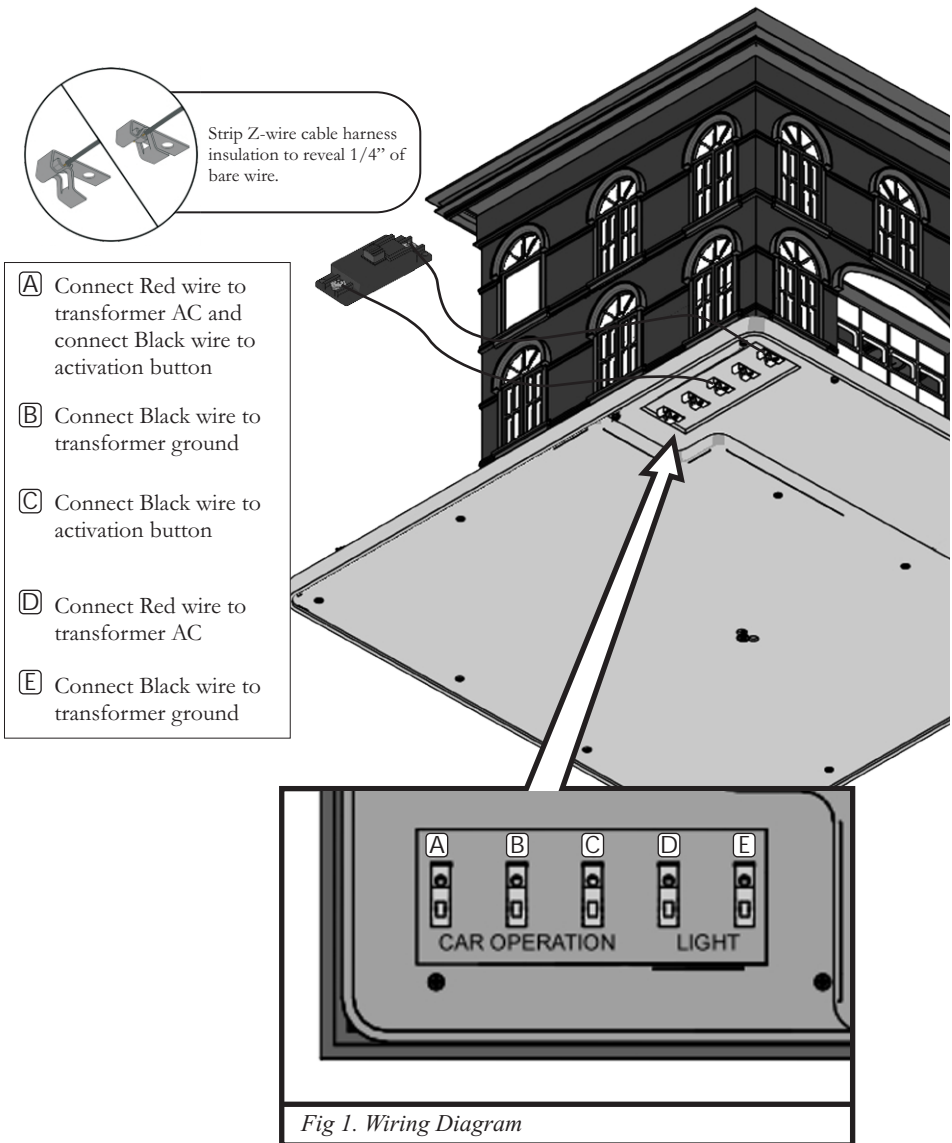

Fig 1. Wiring Diagram
The RailKing® Fire Station is made up of three components: the fire station building and base, the fire truck, and the activation button. Before you place the fire station on the layout, you must wire the station to the activation button and power source. In order to connect power to each component, the six (6) enclosed wires must be connected to the wiring posts located on the underside of the fire station and the activation button. Wires from ports A-C control the fire truck operation. Wires from ports D-E control the lights. Follow the diagram (Fig 1) shown to make the correct connections.